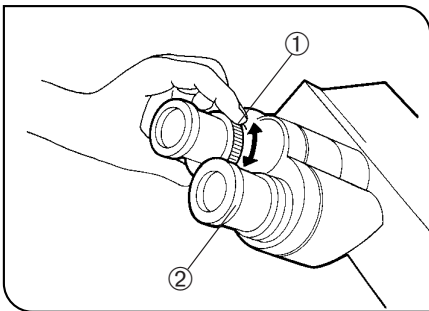

Fig. 22
2 Adjusting the Diopter (Figs 22 & 23)
2. Looking through the eyepiece with the diopter adjustment ring, turn only the diopter adjustment ring ① to focus on the specimen. (Fig. 22)
1. Looking through the right eyepiece with your right eye, turn the top of the eyepiece ② until a clearly defined double crossline can be seen in the field of view. (Fig. 22 & 23)
3. Looking through the left eyepiece with your left eye, turn the diopter adjustment ring ① to focus on the specimen.